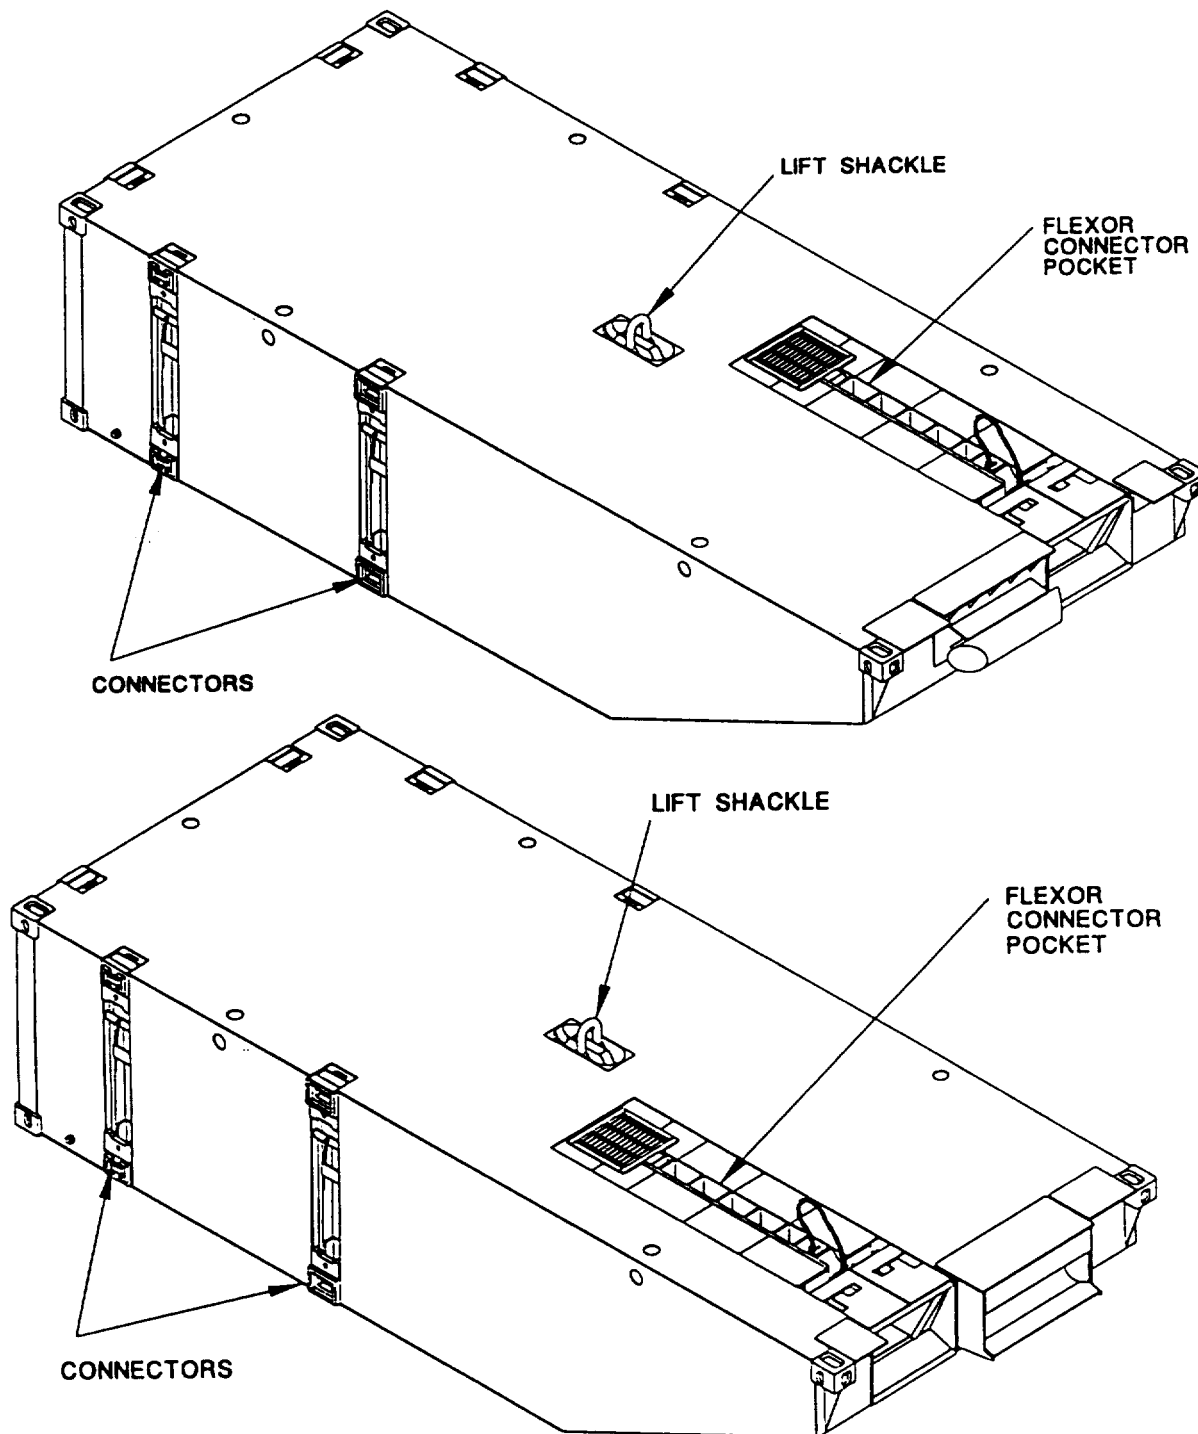
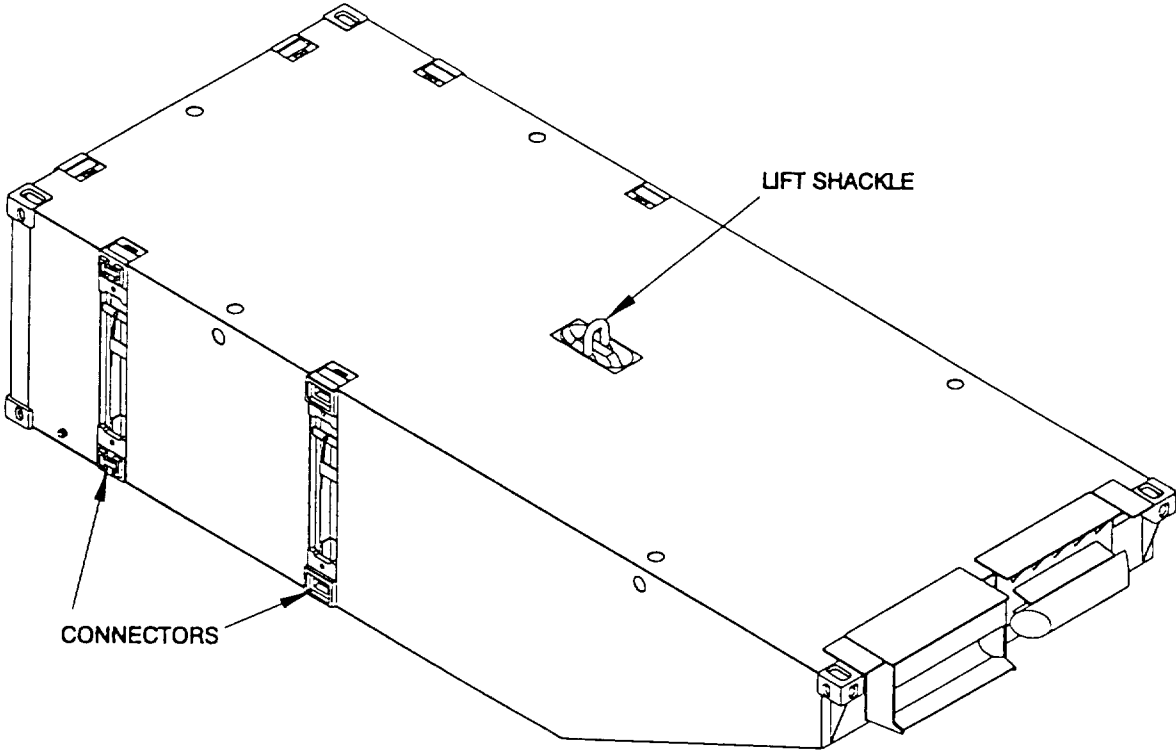

Figure 1-5. End Rake Modules, Left Hand (Port) and Right Hand (Starboard).
Figure 1-6. End Rake Module, Center.
1-10.3 End Rake Modules. In order to achieve Navy Lighterage (NL), MCS, and MCF compatibility, End Rake Modules used in the MCF are produced in three unique types, Right Hand and Left Hand Rake Modules (Figure 1-5), and Center Rake Module (Figure 1-6). Nominal dimensions of the single compartment end rake modules are 8 feet wide 20 feet long and 4 feet 6 inches deep, ISO compatible. The Right Rake and Left Rake Modules are flexors connectable. Access for internal leak detection for each End Rake Module is provided by a recessed threaded plug. Weights of the Right and Left Rake Modules are 11,500 pounds. The Center Rake Module weighs 10,600 pounds.